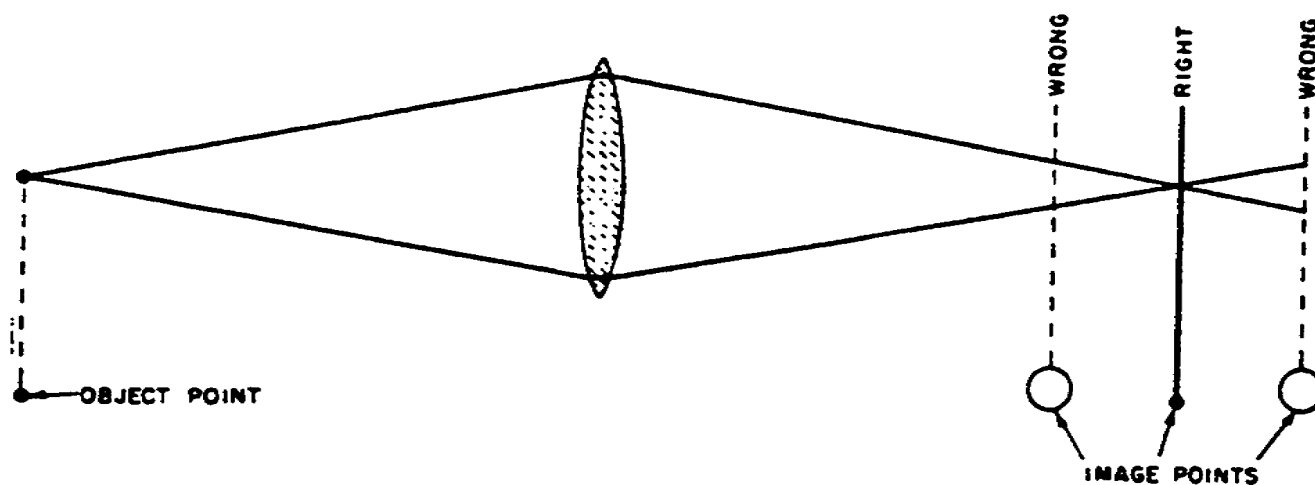

Figure 2-19. Image points nearer to and farther from focal point.
c. If the cone of light is intersected, either in front or behind the focal plane, the light rays form circles rather than points. These are called circles of confusion, (fig 2-19). A circle of confusion is a point of light that has been enlarged due to incorrect focus. It is measured as a fraction such as  $1/250$ ,  $1/500$ , or  $1/1000$  of an inch.
(1) Focusing. Light rays form sharp points on the ground glass or film if the subject is at a correct distance from the lens in relation to the distance between the lens and the film. At this point, the image is sharp and the lens is focused properly, (fig 2-19).